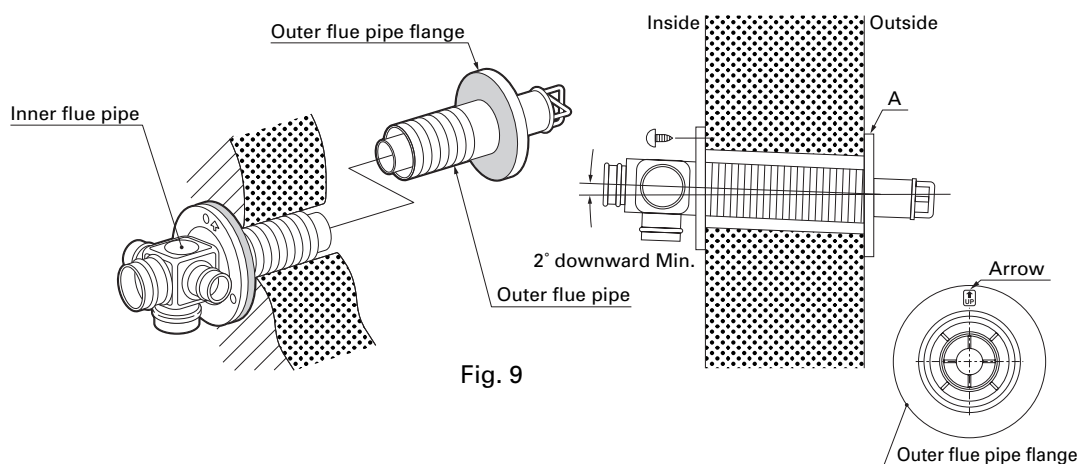

Fig. 9
- c. From outside, insert the outer part of the Balanced Flue Pipe into the wall hole, and twist so the outside section is "threaded" on to the inside section. Keep turning (screwing) the outside flue section clockwise, until the outside flange and its Polyurethane Foam Gasket, (See "A", in Fig. 9) is tightly sealed against the outside cladding of the home. Ensure the arrow on the outer flange of the Balanced Flue Pipe is pointing UP. Secure the inside flange of the Balanced Flue Pipe to the inside wall with the screws supplied, (or other fastenings as appropriate for the wall material).